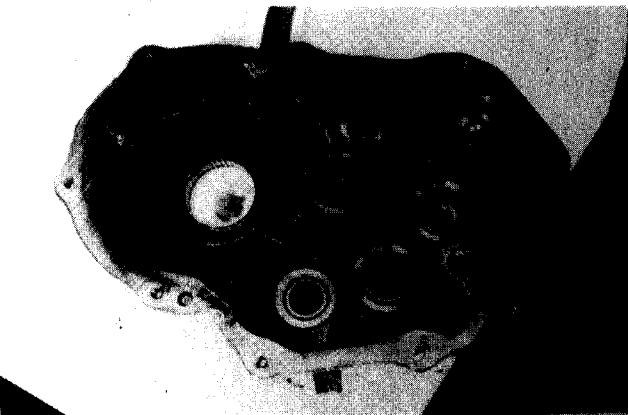

FIG. 4.6-GEAR CASE BEARINGS
7. Inspect all parts for wear or damage, replace as required. Replace all seals and gaskets. If bearings require replacement, position bearing cage flush with machined surface of bearing cage flush with machined surface of bearing bore and press against lettered side of bearing. Fig. 4.6.